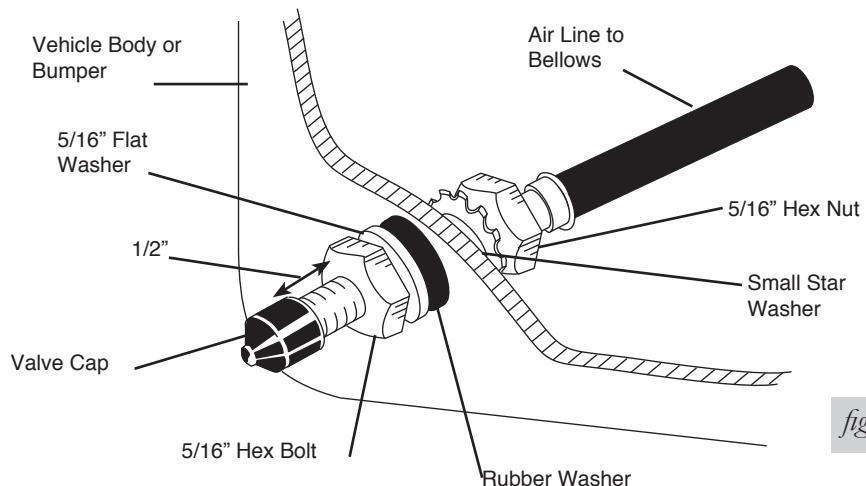

fig. 17
5. Install the inflation valves as shown in fig. 17.